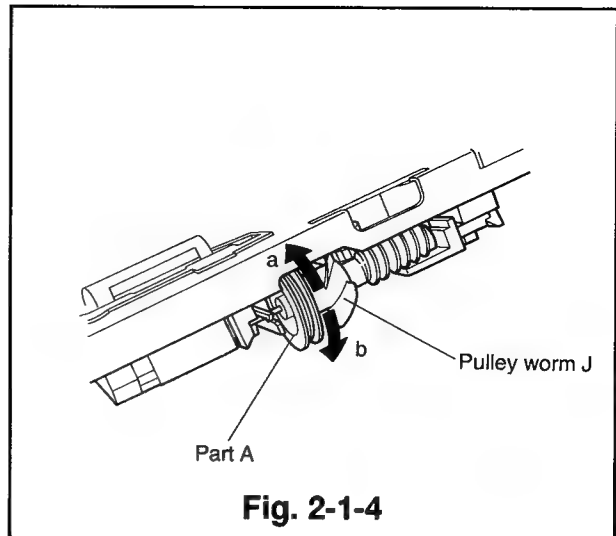

Fig. 2-1-4
- ② If the deck is not completely set to the eject mode, turn part A of the pulley worm J by hand to set the eject mode. (Refer to Fig. 2-1-4)